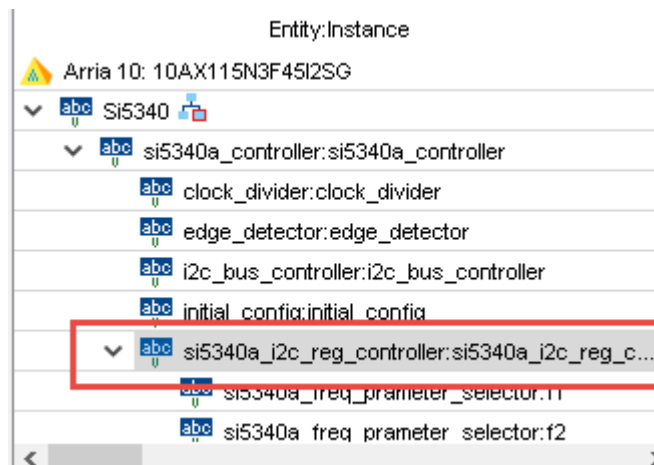

Figure 5-8 Sub-Module file “si5340a_i2c_reg_controller.v”
- Open Si5340 control IP sub-module “si5340a_i2c_reg_controller.v “ as shown in**Figure5-8**, refer Design Report parameter to modify sub-module corresponding register value (See **Figure 5-9**).